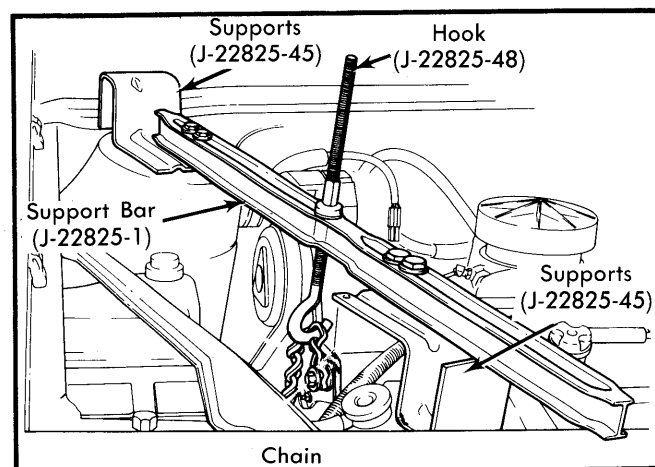

Fig. 1 Installation of Engine Support Fixture for Starter Removal
4.3L (262") V6 Diesel Front Wheel Drive — 1) Disconnect negative battery cable at battery. Install engine support fixture (J-22825-45, J-22825-1, and J22825-48) as shown in Fig. 1. Raise vehicle on hoist.
4.3L (262") V6 Diesel – 1) Disconnect negative battery cable at battery. Install engine support fixture (J-22825-45, J-22825-1 and J-22825-48) as shown in *Fig. 1*. Raise vehicle on hoist.